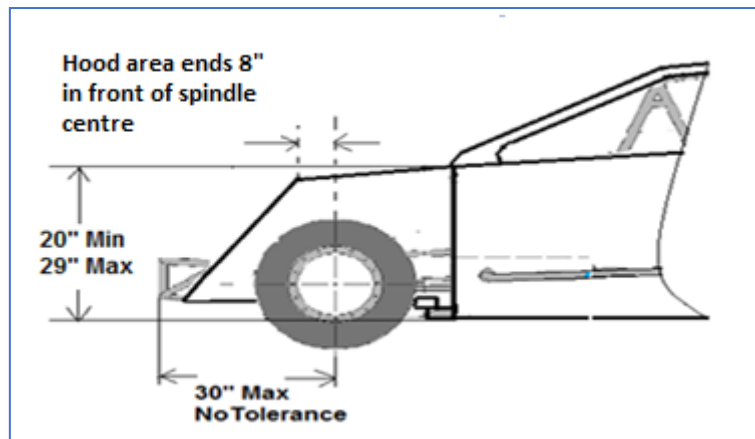

Figure 5
- **Hood** means the front section of the car body that extends from the front of the windscreen to 8” in front of the front ball joint (Figure 5&6).
- **Nose** means the front section of the car body that extends from the front of the hood to the front bumper (Figure 5).
- 8.1. Hood height (excluding air filter and any plastic or sheet metal cover used to protect the air filter) must not be less than 20 inches or exceed 29 inches max (No tolerance). The hood height is the vertical measurement from the bottom of the lowest point on the main frame rail to the top of the hood (*Figure 5*).
- 8.8 Front of bumper may not extend more than 30 inches forward of spindle centre (No tolerance). Measurements to be taken from centre of either front spindle to the outside of front bumper (*Figure 5*).